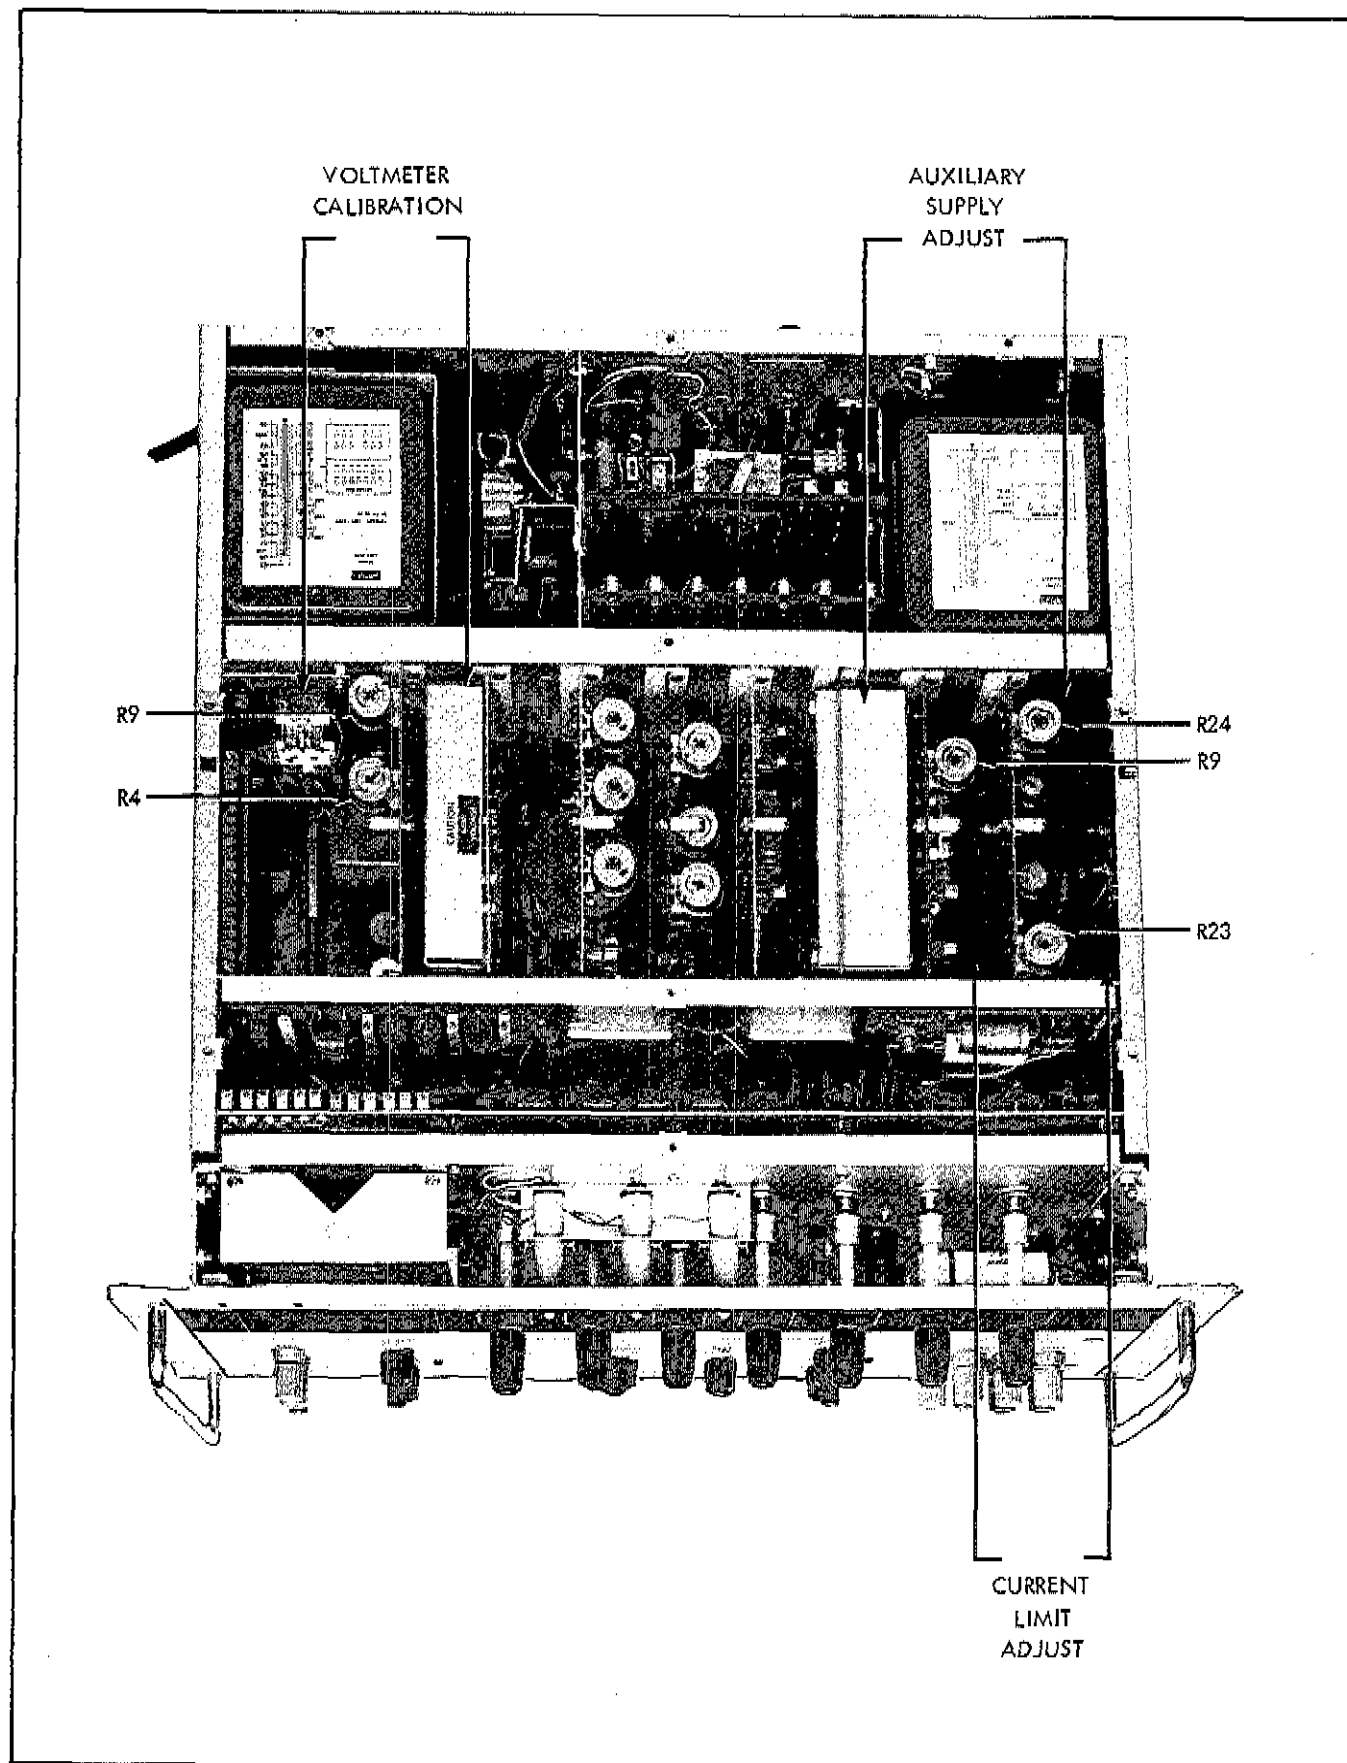

Figure 4-8. LOCATION OF ADJUSTMENTS
- c. Refer to Figure 4-8 and adjust R4 until the period of the square wave is 11.9 milliseconds.
- Refer to Figure 4-8 and adjust R9 for a full scale meter deflection $(1.0) \pm 1/2$ a small division.
- Referring to Figure 4-8, adjust R9 until the Model 885A indicates 25 volts, ± 10 millivolts.
- Referring to Figure 4-8, adjust R23 for a 60 milliamperes indication on the external meter.
- Rotate the CURRENT LIMIT control maximum counter-clockwise. Referring to Figure 4-8, adjust R24 for a 2 milliamperes indication on the external meter.